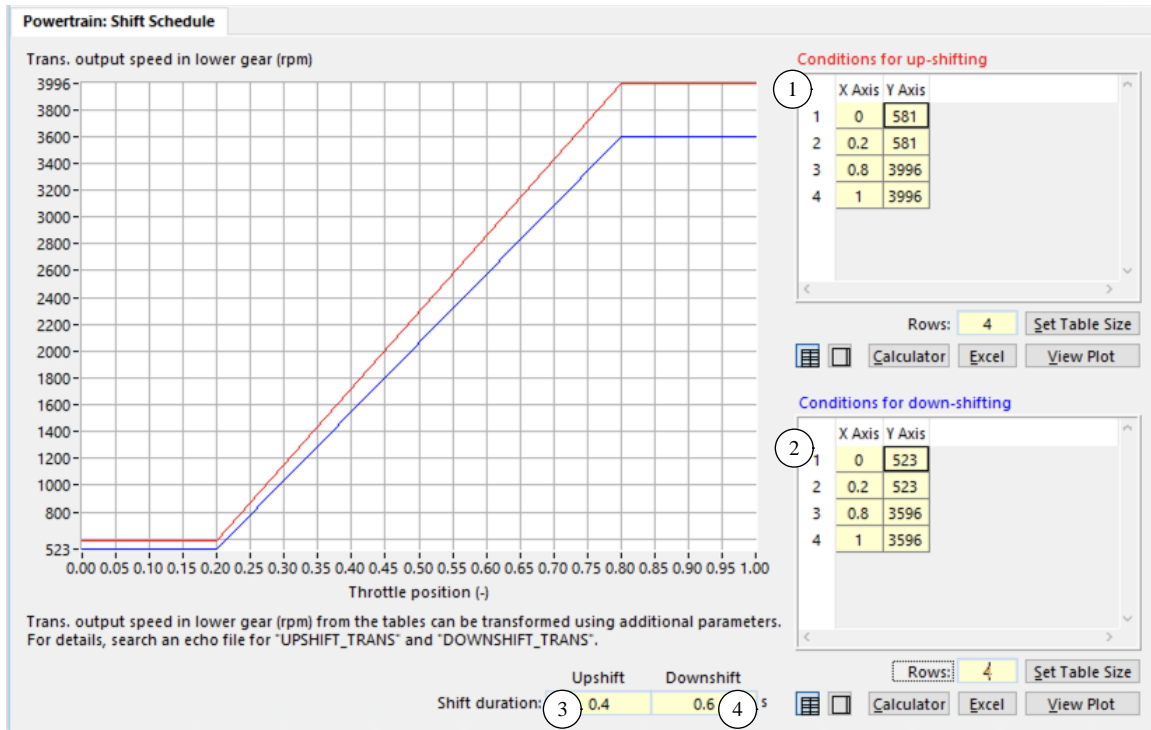

Figure 28. Shift schedule screen.
Upshifting occurs when the combination of transmission speed and throttle crosses an upshift line defined with the `UPSHIFT_TRANS` Configurable Function that is set in the **Powertrain Shift Schedule** library (①, Figure 28) along with a corresponding `DOWNSHIFT_TRANS` Configurable Function for downshifting (②).